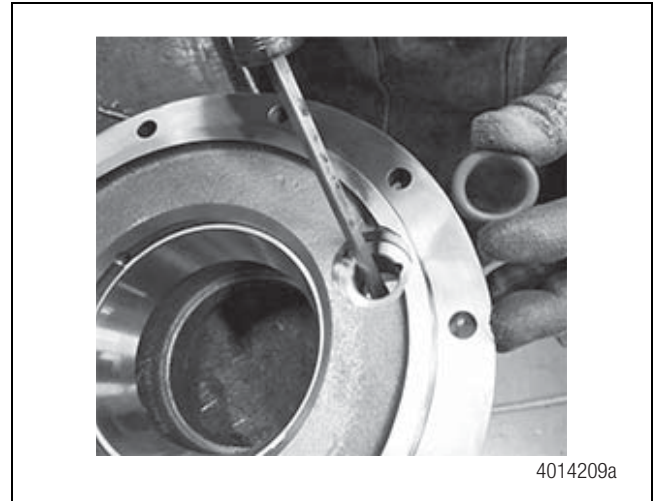

Figure 6.20
11. Place an O-ring into the insert on the carrier. Figure 6.20.